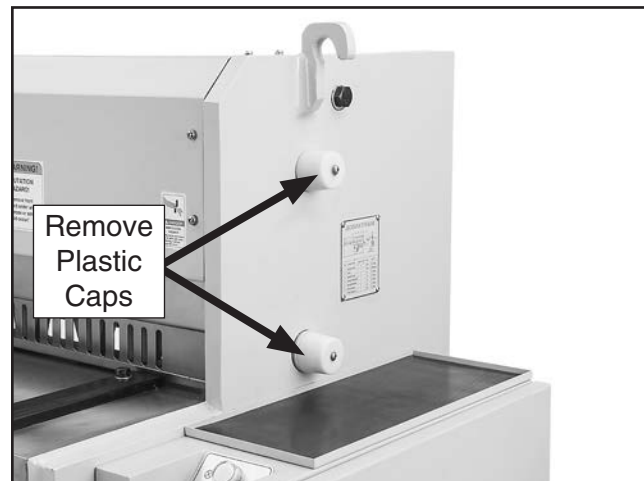

Figure 55. Location of covers for blade guide eccentric cam and retaining stud (right side).
- Remove (4) plastic caps on side of frame to expose blade guide eccentric cams and blade guide retaining studs (see **Figure 55**).